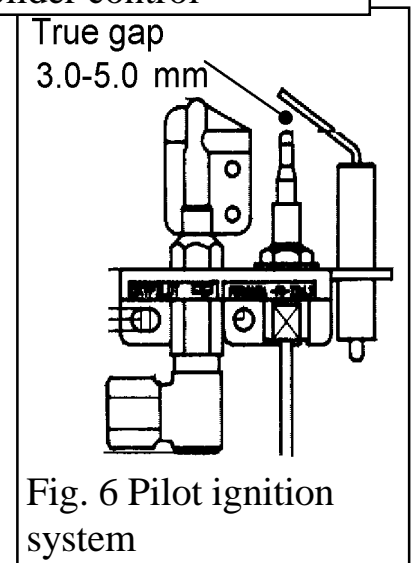

Fig. 6 Pilot ignition system
- Check spark gap between electrode wire and thermocouple tip. See figure 6.